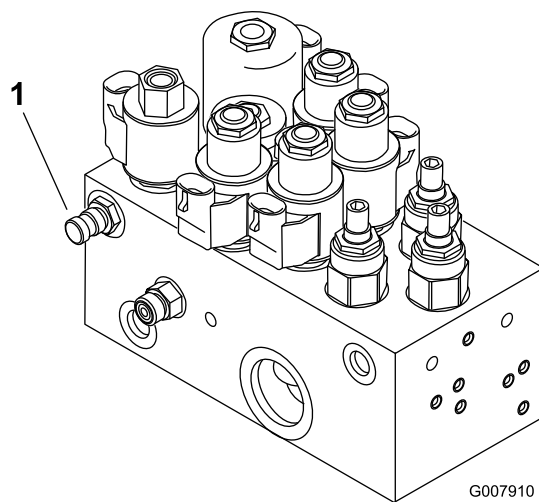
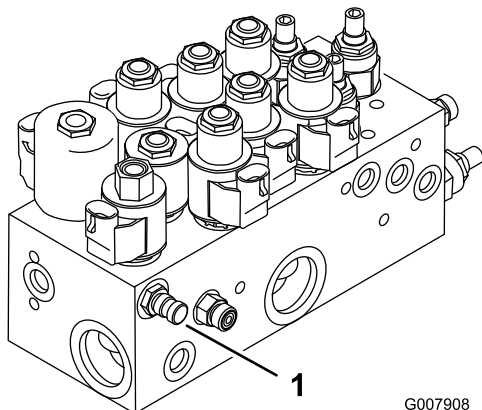

Figure 80
Figure 79
1. Test Port A (Figure 79 and Figure 80) is used to assist in trouble shooting the hydraulic circuit for the lift cylinders.